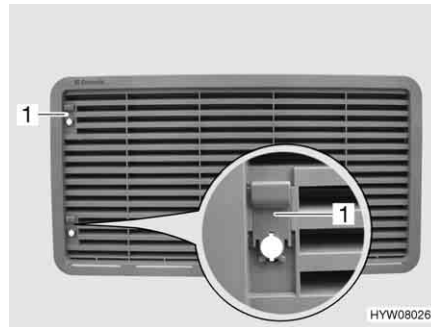

Fig. 195 Refrigerator ventilation grill (with sliding trap)
- Push sliding trap (Fig. 195,1) upward.